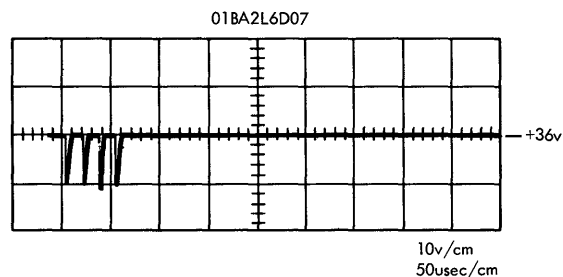

Figure 1-12. Position Isolation Output
18. Remove dc power, and insert position isolation card (PN 5804732) in location 01BA2L6/L7. Turn on power, and scope the output at 01BA2L6D07 for signal swing of +36v to approximately +20v. See Figure 1-12.
22. Observe change in waveform at 01BA2L6D07 as shown in Figures 1-12 and 1-14.